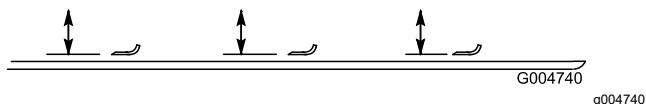

Figure 97
2. Rotate the blade until the ends face forward and backward and measure from the inside of the cutting unit to the cutting edge at the front of the blade (Figure 97).